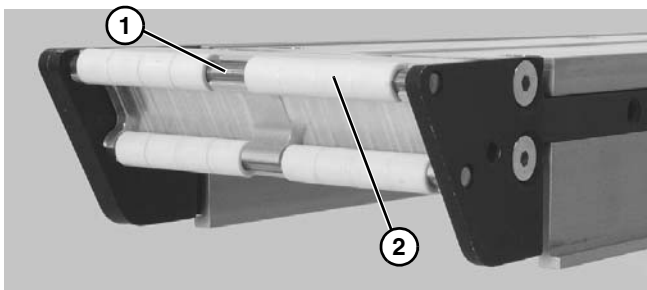

Figure 71
4. Slide nose bar rods (**Figure 71, item 1**) out side of conveyor and replace rollers (**Figure 71, item 2**) as necessary.